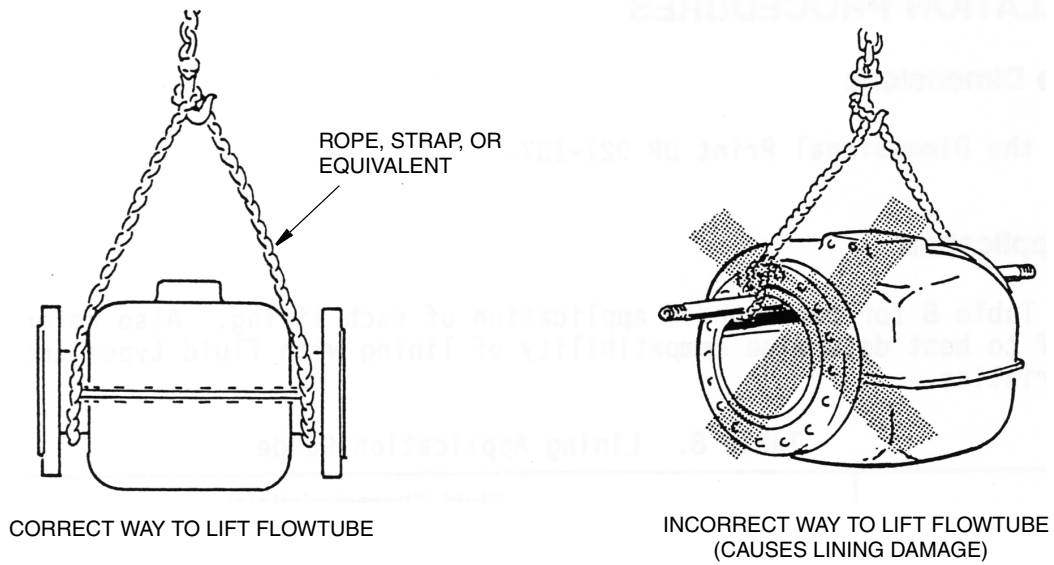
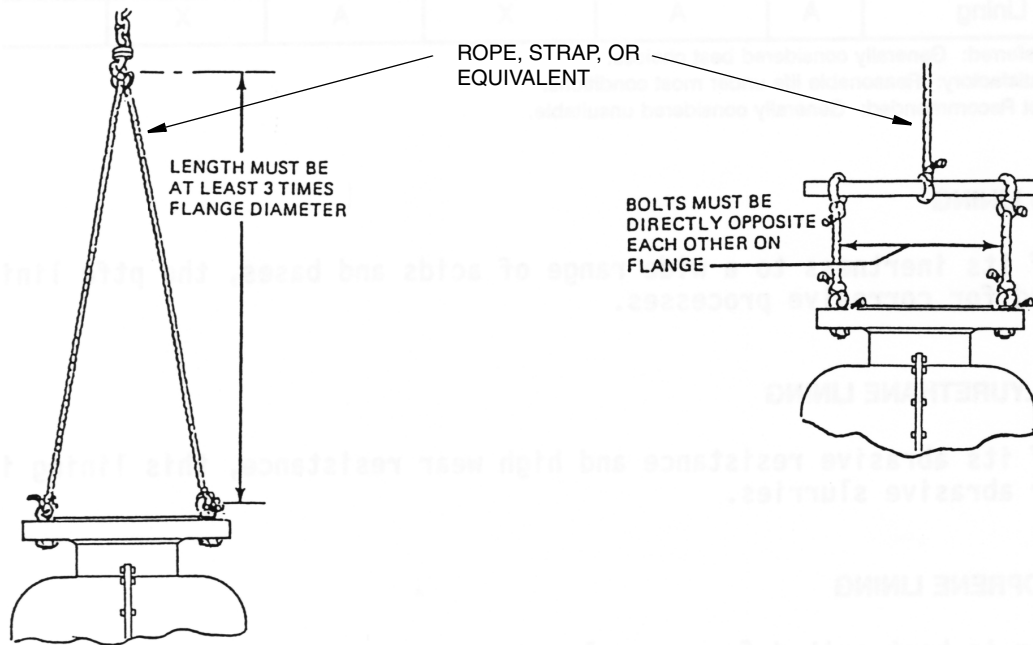

Figure 4. Lifting Flanged Flowtube for Horizontal Mounting (14 to 36 in Size Shown)
Figure 5. Lifting Flanged Flowtube for Vertical Mounting
2. Do not use the housing to support or lift the flowtube. Figure 4 and Figure 5 show correct and incorrect methods for lifting the flowtubes. Note that in Figure 4 (horizontal lifting), the suggested approach is to place the lifting rope or strap (or equivalent) between the flange and flowtube body. For vertical lifting, shown in Figure 5, the use of eye bolts in the flange to which the lifting rope is attached is the preferred method. This ensures that the lifting force is applied to the eye bolts as nearly straight upward as possible.